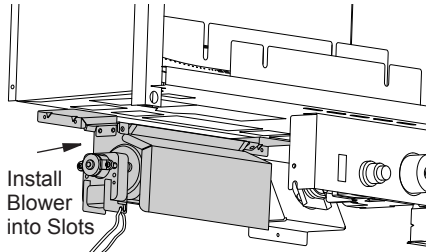

Figure 8 - Positioning Blower Assembly to Shell Board
3. Set blower plane and attach to two brackets of shell board. Make sure blower is installed into the slots (see Figure 8).